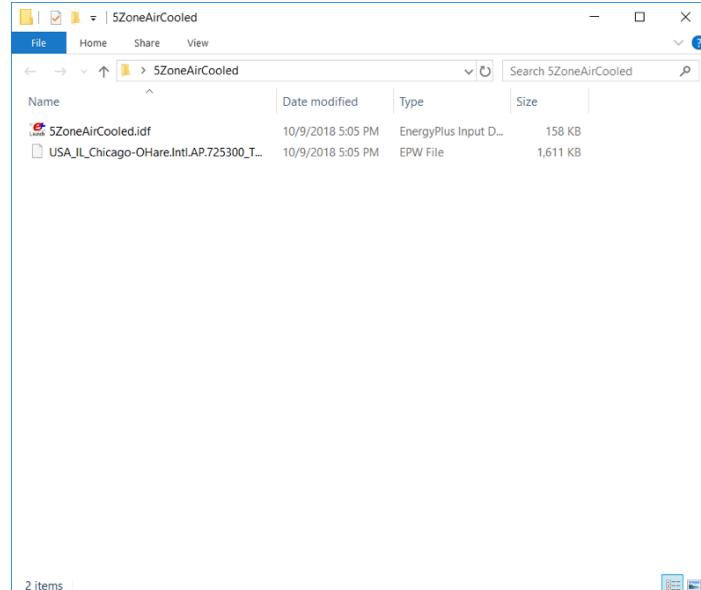

Fig. 1 Directory Contents Before Run
2. Obtain a weather file. This model is situated in Chicago, IL, so copy the Chicago weather file /WeatherData/USA\\_IL\\_Chicago-OHare.Intl.AP.725300\\_TMY3.epw into the directory with the IDF file. At this point the directory will look something like what is shown in Fig. 1.